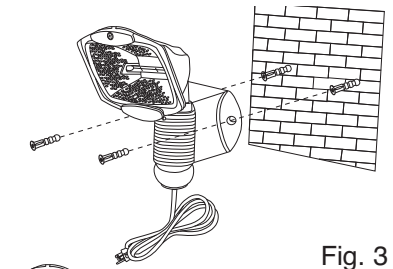

Fig. 3
3. Mount fixture to wall using hardware provided (Fig. 3).